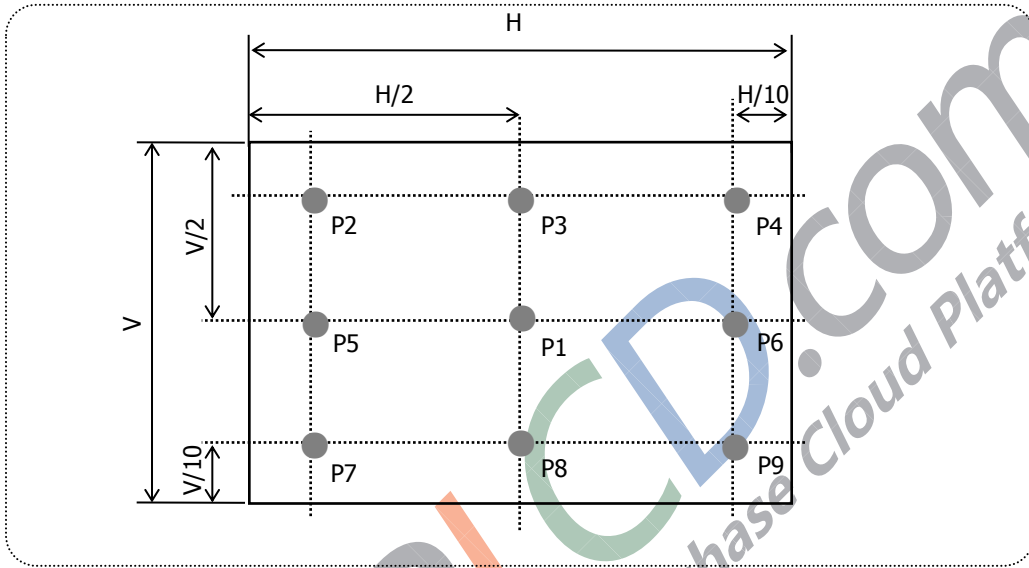

FIG.8 Measure Point for Luminance
2. **Surface luminance(LWH)** is luminance value at Center 1 point(P1) across the LCD surface 50cm from the surface with all pixels displaying white. For more information see FIG.8 (By PR880)
For more information see FIG.8